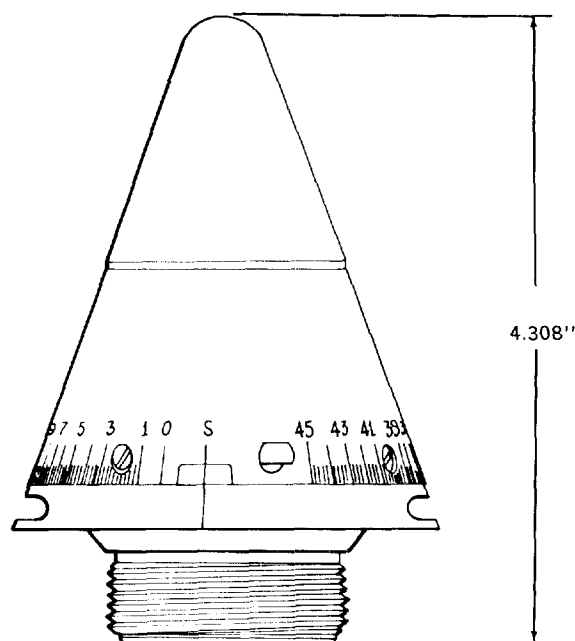

Figure 3-10. Mechanical Time Fuze Mk 62 Mod 1, External View
b. Mod 1, figures 3-10 and 3-11, differs from Mod 0 in the following respects: